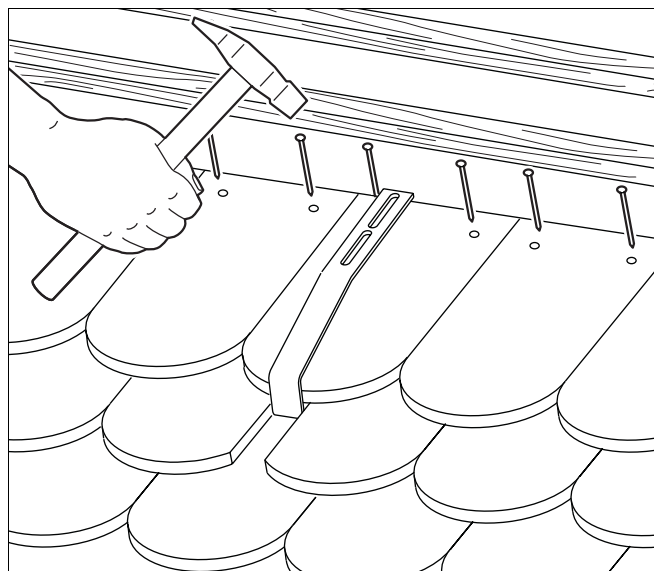

Fig. 27 Installing second row of crown tiles
- Place the second row of crown tiles (Fig. 27) and fasten them in place.